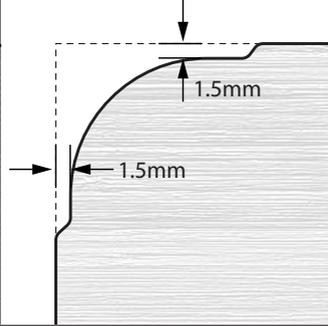

Fig. 5
- It is possible to mix the faces, such that an 'Edged' face blends into a 'Raw' face (Fig. 5).